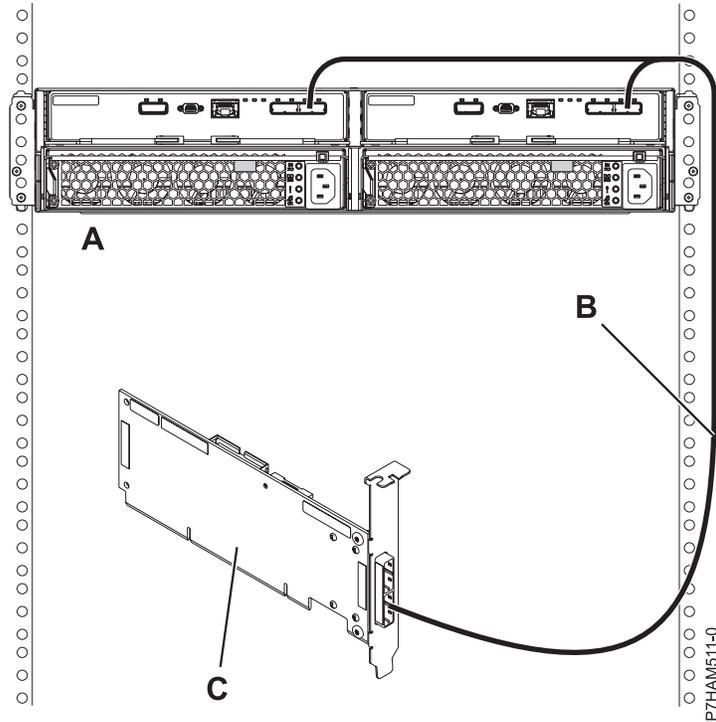

Figure 35. Mode 1 connection of one 58/87 disk drive enclosure by using a YO cable to a single SAS adapter
9. Perform the mode 1 connection of one 58/87 disk drive enclosure (A) by using a YO cable (B) to a single SAS adapter (C) as shown in Figure 35 on page 69.